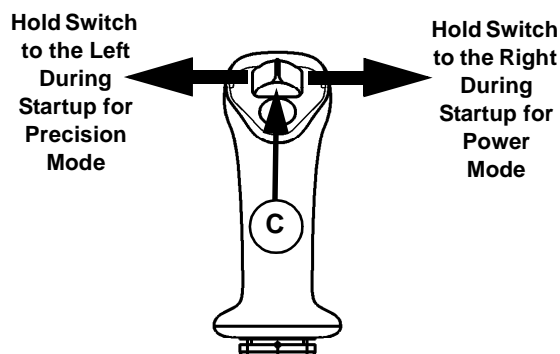

Figure 3-58 Right Joystick
2. To set the auxiliary hydraulics to power mode, slide and hold the thumb switch (C, Figure 3-58) on the right joystick to the right and start the excavator.
3. To set the auxiliary hydraulics to precision mode, slide and hold the thumb switch (C, Figure 3-58) on the right joystick to the left and start the excavator.